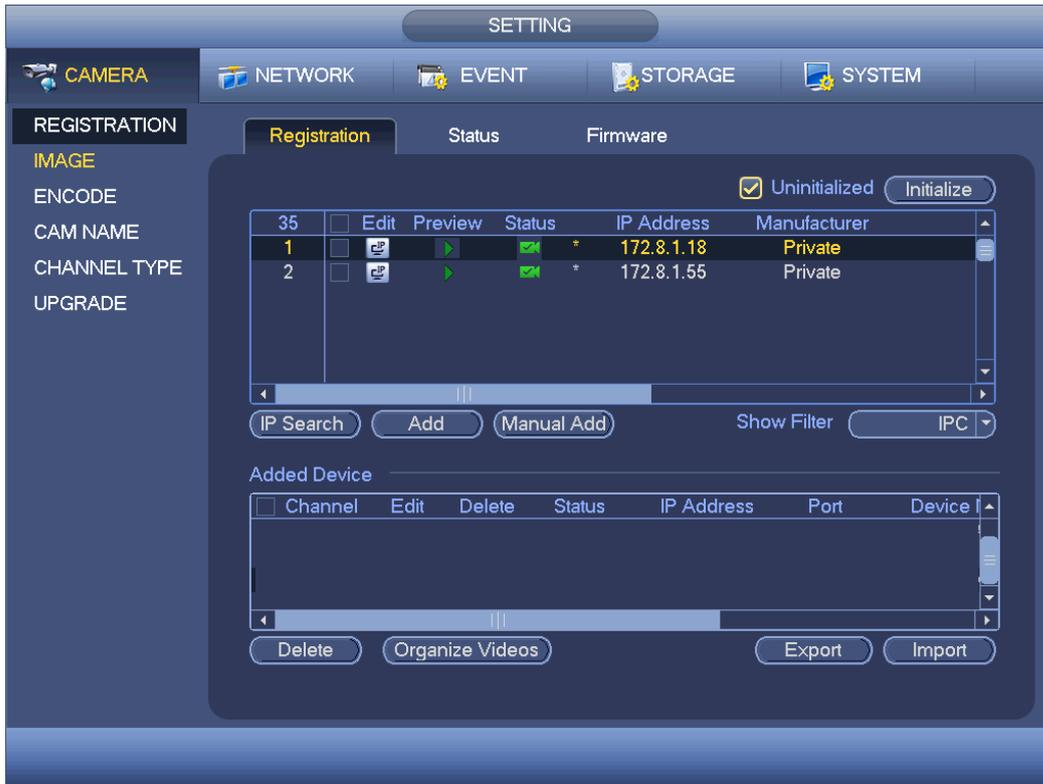

Figure 4-21
- Step 1 From main menu->Setting->Camera->Registration. Enter Registration interface. See Figure 4-21.